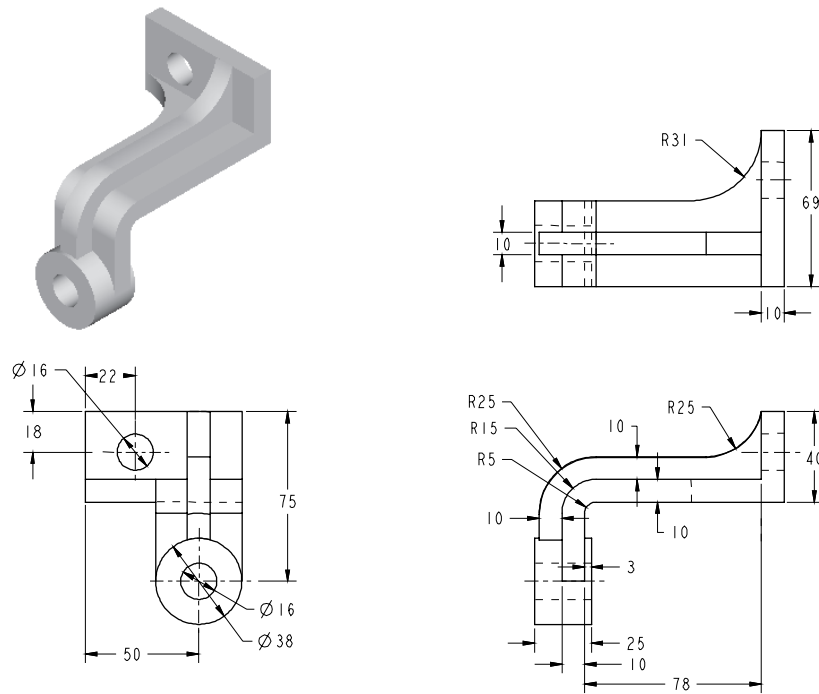

Figure 5-33 Isometric shaded view, left-side, front, and top views of the model
Create the model shown in Figure 5-33. The dimensions, the front, top, and left-side views of the model are also shown in the figure. **(Expected time: 45 min)**
- a. First examine the model and then determine the number of features in it. The model is composed of eight features, see Figure 5-33.
Figure 5-33. As mentioned earlier, the sketch for a rib is by default extruded to both the sides of the sketching plane. Therefore, when you create the sketch for the rib feature on the **RIGHT** datum plane, it will be extruded on both the sides of the sketching plane.